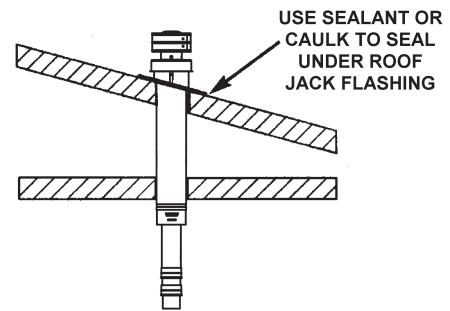

FIGURE 15.
5. Use sealant or caulk on the roof to seal under flashing of the roof jack assembly. Use roof nails or screws on wood construction or sheet metal screws on metal roofs (nails and screws not provided). See Figure 15.